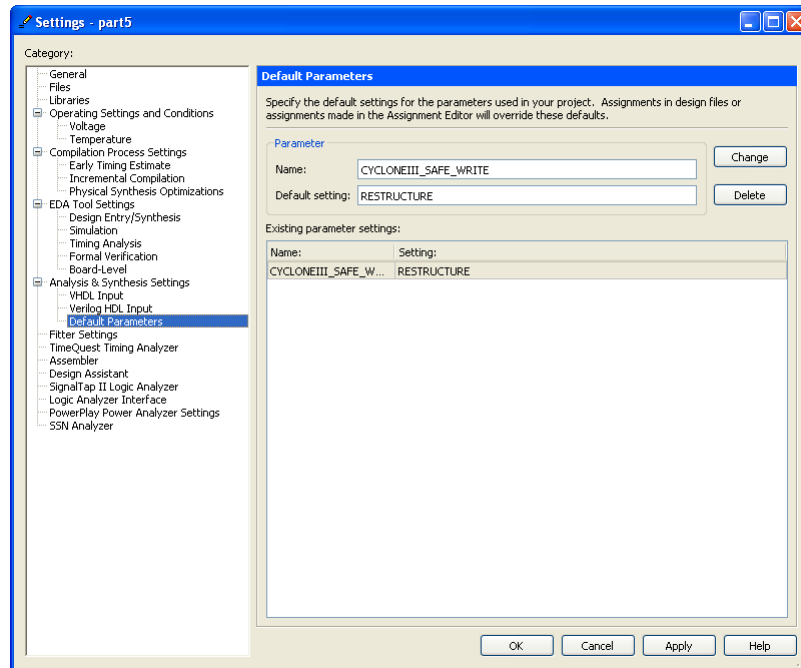

Figure 6: Setting the *CYCLONEIII_SAFE_WRITE* parameter.
- Before you can use the In-System Memory Content Editor tool, one additional setting has to be made. In the Quartus II software select **Assignments > Settings** to open the window in Figure 6, and then open the item called **Default Parameters** under **Analysis and Synthesis Settings**. As shown in the figure, type the parameter name **CYCLONEIII_SAFE_WRITE** and assign the value **RESTRUCTURE**. This parameter allows the Quartus II synthesis tools to modify the single-port RAM as needed to allow reading and writing of the memory by the In-System Memory Content Editor tool. Click **OK** to exit from the Settings window.